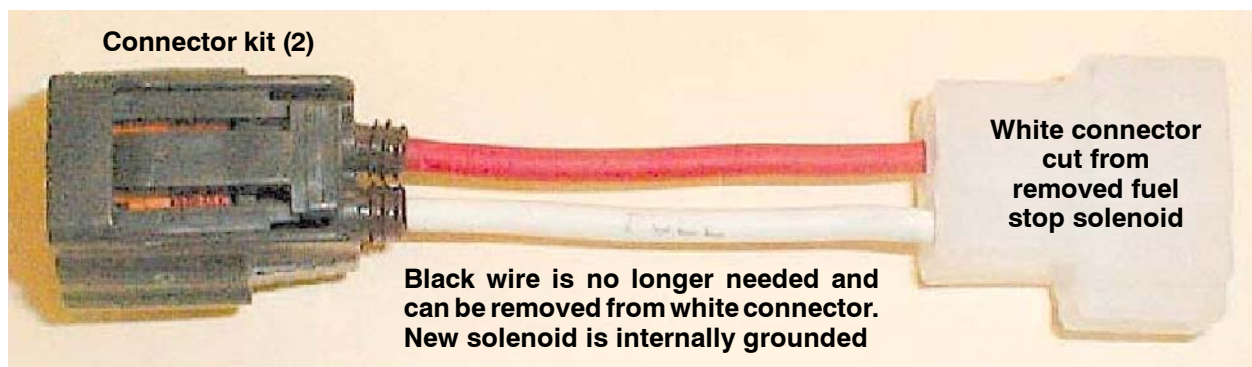

FIG. 6
5. Remove the black wire from the white connector. The black wire is no longer needed since the new stop solenoid is internally grounded. Refer to Fig. 6.
6. Install the stop solenoid connector (2) onto the wires from the white connector. Since the circuit polarity is sensitive, be sure to install the stop solenoid connector exactly as shown. Refer to Fig. 6.
7. Plug the harness from the previous several steps into the wire harness and the stop solenoid (1).